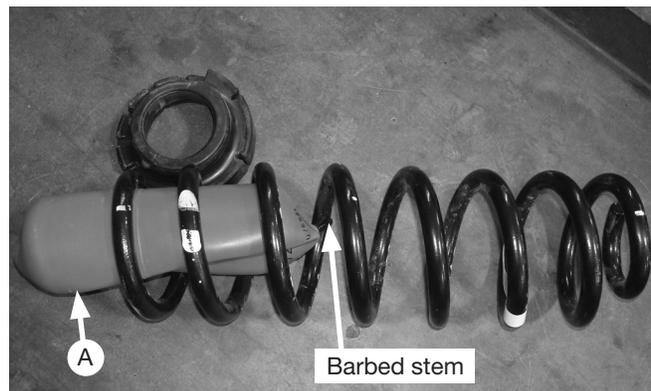

Fig. 16
15. Insert the air spring into the coil spring with the barbed stem pointing down (Fig. 16). Install the upper spring seat back onto the top of the spring making sure it indexes and seats properly. Remove the black cap and allow the spring to assume it's as molded shape.